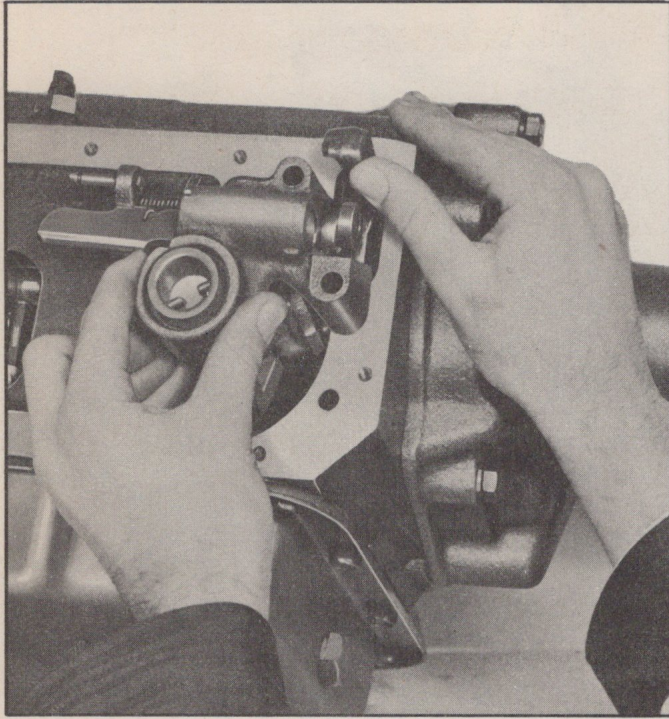

Fig. 93—Removing Parking Brake Bracket and Parking Pawl
14. Remove bolts from parking brake bracket assembly and remove piston release spring stop and spring. Hold parking pawl out of way against top of case and carefully remove parking bracket from governor (Fig. 93). Parking pawl can now be removed.